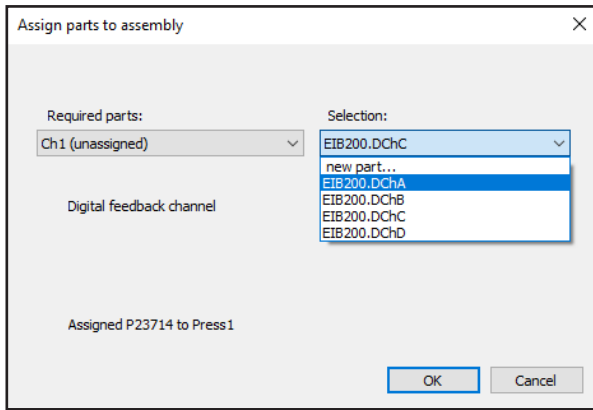

Fig. 9
9) For **Ch 1 (digital feedback channel)**, select one of the **EIB channels, A-D** (Fig. 9).